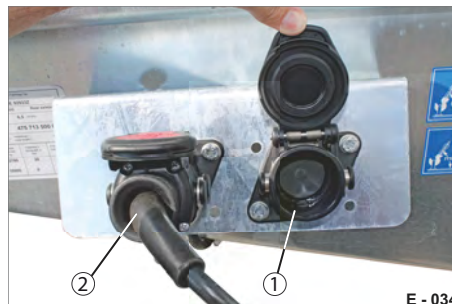

Fig. 14 Empty socket open
- ▶ Insert the plug not required in the empty socket (Fig. 14/1).